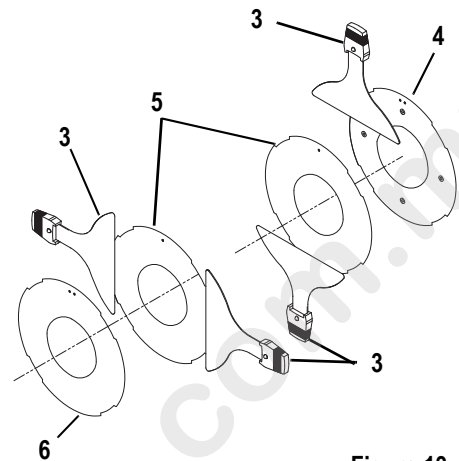

Figure 13
Step 3: With the bottom barrel casting (2) to your left, place two shutter blades (3) on top of dimple plate (4) and opposite each other so together they form a barrier. The handles should extend past the barrel casting, rivets pointed down. These will be the side shutters (See Figure 13).
Step 4: Place a divider plate (5) on top of the two shutter blades.
Step 5: Place another shutter blade on top of the middle divider plates and perpendicular to the previously installed shutter blades. This will be the top shutter, so align the handle away from the bottom casting (2). Then place the other divider plate on top.
Step 7: Place the top divider plate (6) on top of the fourth shutter blade.